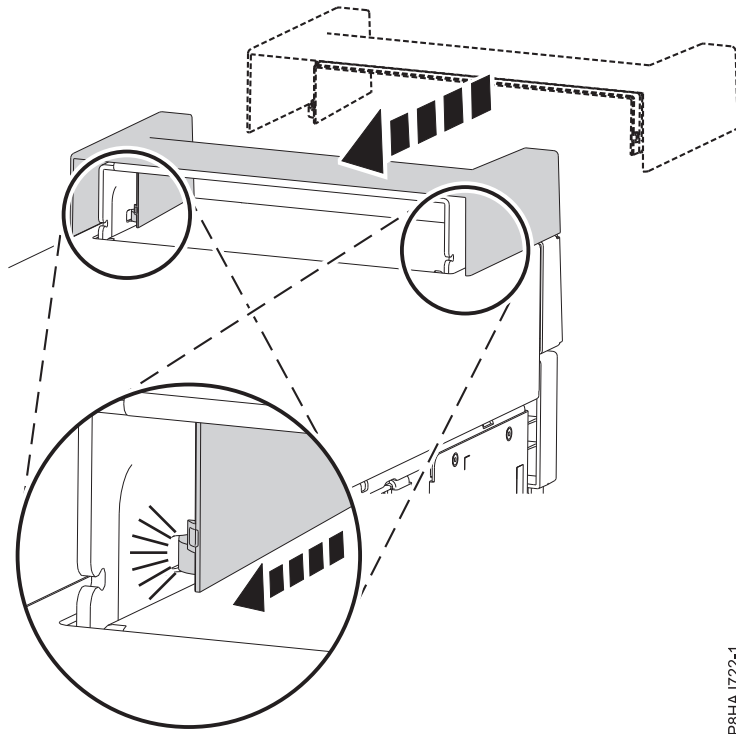

Figure 38. Securing the handle cover in an 8286-41A stand-alone system
1. Secure the handle cover to the internal RDX docking station (FC EUA3) by sliding it toward the rear of the system. See Figure 38.